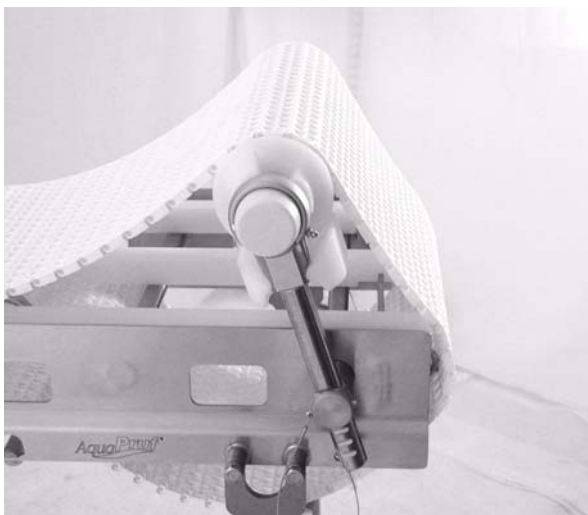

Figure 43
1. Tip up idler tail assembly (**Figure 43**).